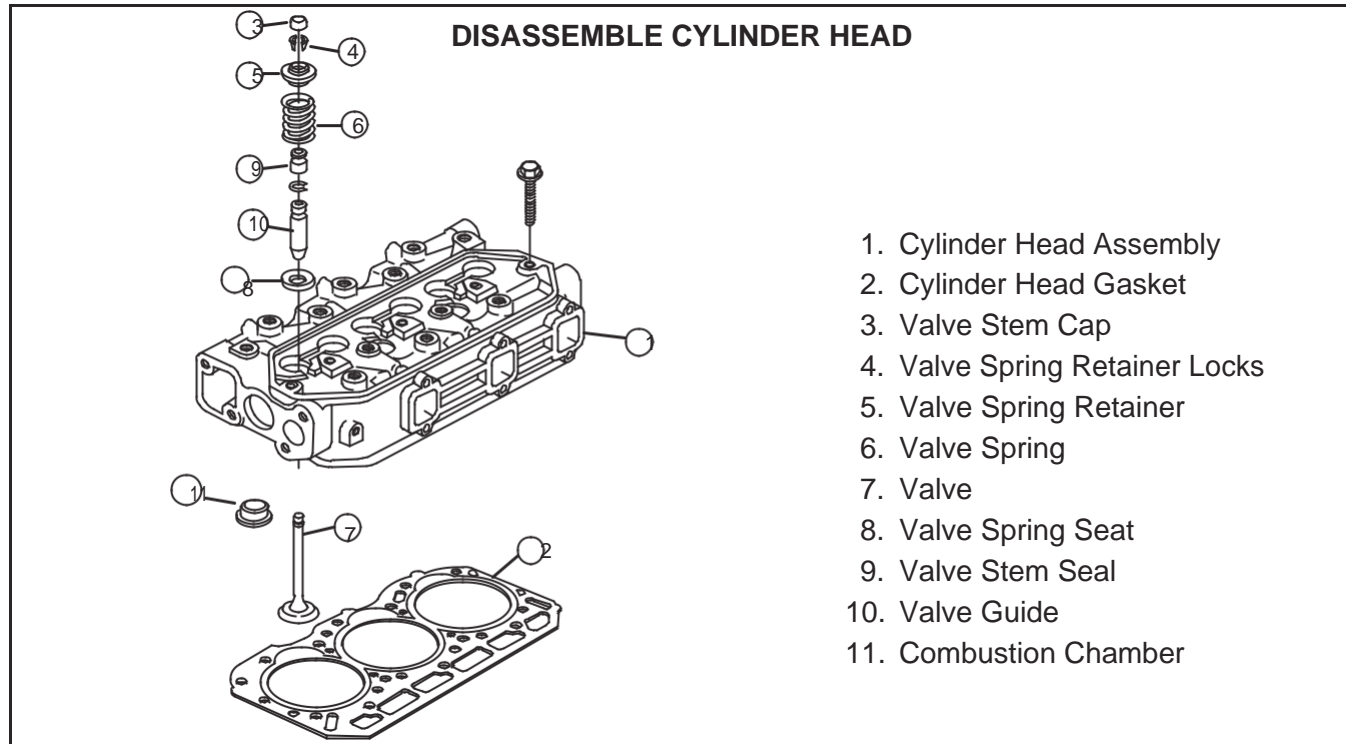

Fig. 9 – Cylinder Head Components
1. Use valve spring compressor, Tool #19417, to compress valve springs. Remove the following parts, Fig. 9: